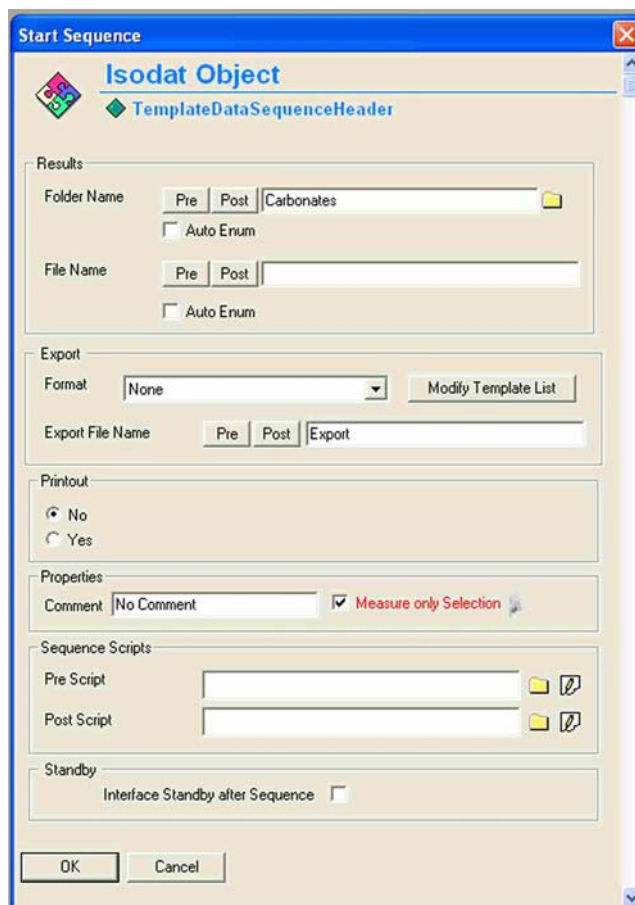

Figure 3-63. Defining parameters for handling results
2. Define parameters for Results Export, Printout and Sequence Scripts as follows. See Figure 3-63.